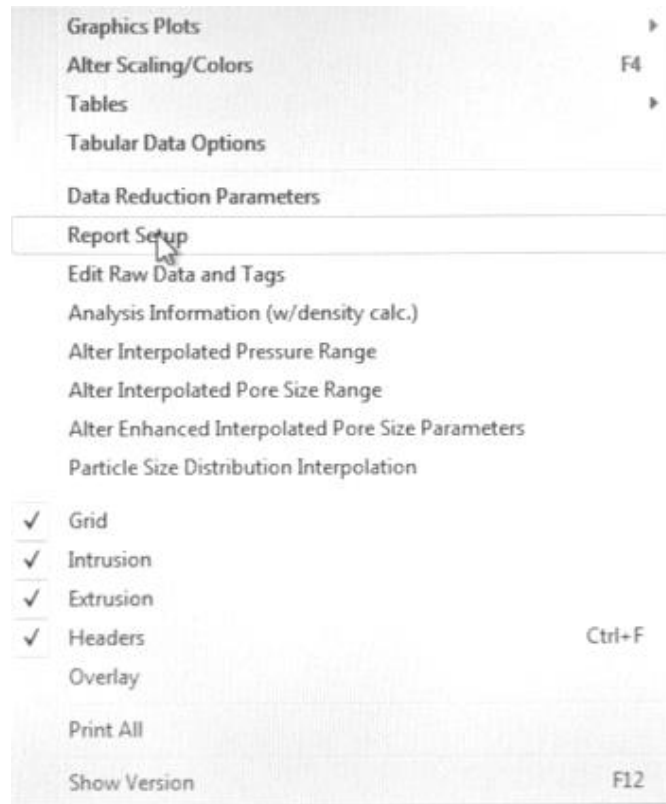
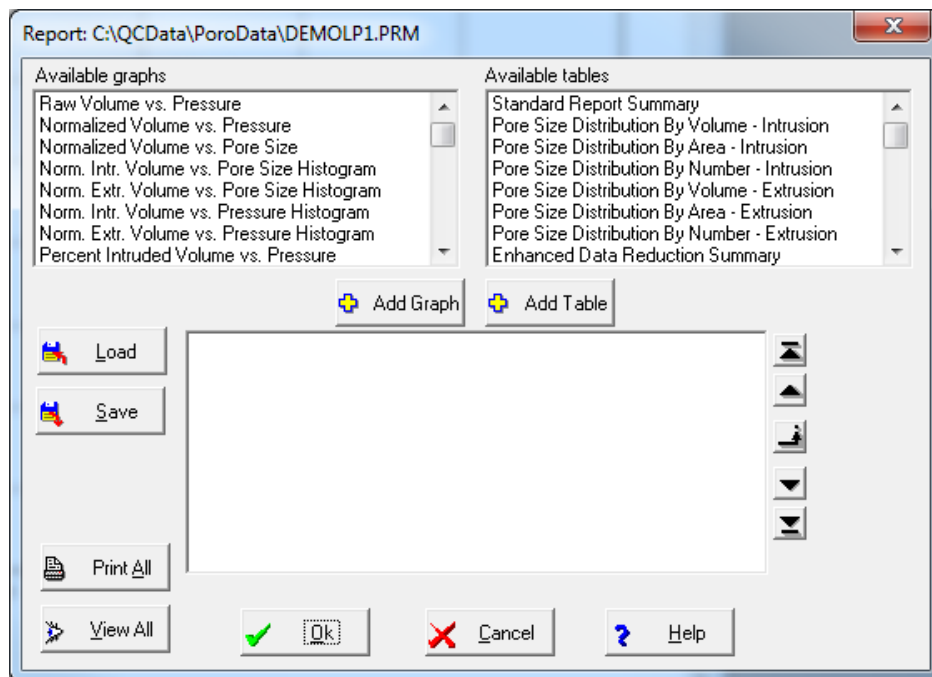
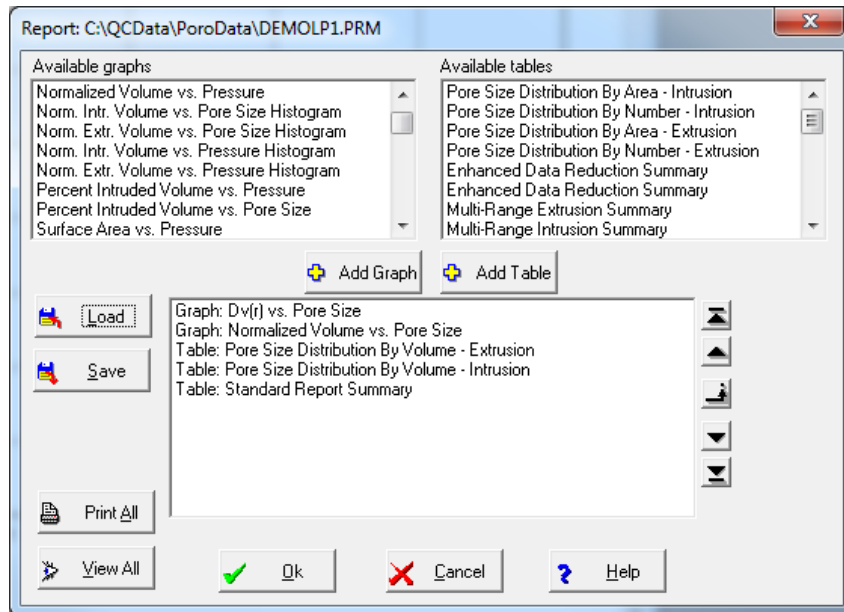

Figure 35. Options box
Figure 36. Report setup dialog box
Figure 37. Report setup dialog box with basic tables/graphs selected
- After opening a file (displaying a Raw Volume vs. Pressure Plot) right click in the plot area to bring up the options box (Figure 35) and select **Report Setup** as shown in Figure 36. Add your desired tables/graphs from the lists of available tables and graphs as shown in Figure 37. There is also the option to save the user’s preference to load quickly for the next report.
- Example of generally accepted basic reports/graphs: standard report summary, pore size distribution by volume for both intrusion and extrusion, and graphs of volume and Dv(r) vs. pore size as selected in Figure 37.